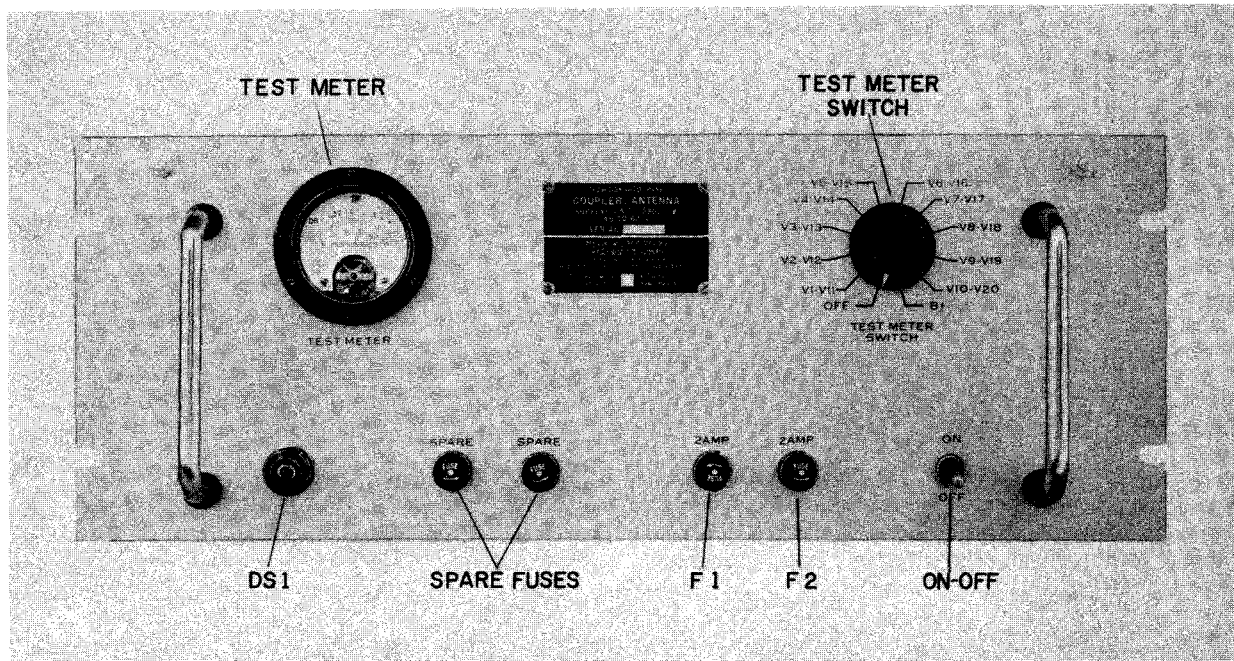

Figure 3-1. Antenna Coupler CU-872/U, Location of Controls
a. DESCRIPTION OF CONTROLS.—The function of the various controls and connectors located on the Antenna Coupler CU-872/U are tabulated in table 3-1. Location of the various controls and connectors are shown in figure 3-1.